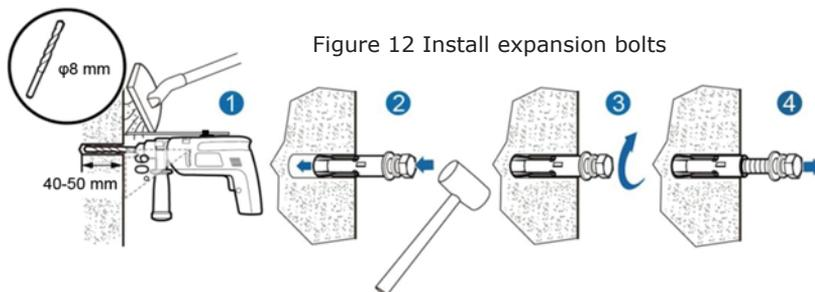

Figure 12 Install expansion bolts
(3) Fix the expansion bolts to the 4 installation holes with hammer, as shown in Figure 12.